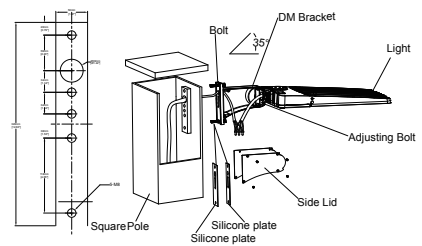

Figure 14
- Step 1: Drill the required holes on the square pole for matching the installation with DM mount, Fix the DM bracket to the square pole with bolt, open the side lid of DM bracket, pull the wire into junction box, and connect the wires correctly (Figure 14)